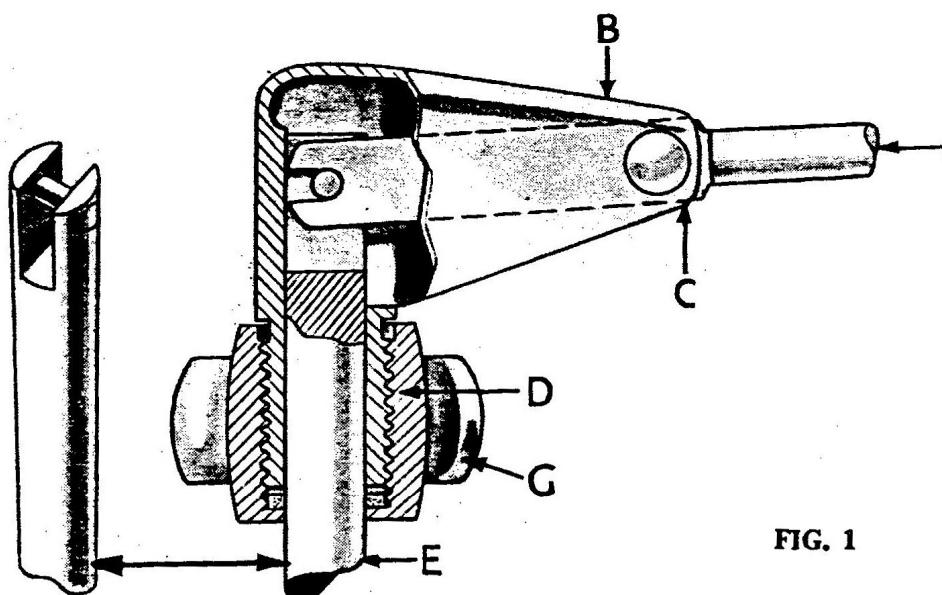
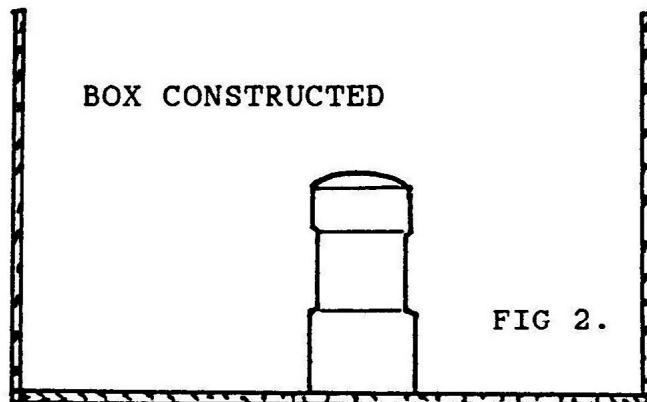

FIG. 1
FIG 2.
We illustrate the two slightly different types of gear levers; Fig. 1 is the earlier type and Fig. 2 shows the slight modifications which were introduced in later models. Their construction can be clearly seen and with the aid of the following description we hope those who wish to change their control will be able to carry out the work without undue difficulty.
The only difference between the two types is that in type 1 (Fig. 1) the end of the lever is forked and fits into the forked end of the gear control shaft, the fork on the lever fitting over a small pin. In type 2 (Fig. 2) the end of the gear lever is rounded and this fits into a hole, H, in the gear control shaft, the top of which has two flats to locate the lever cap and inner sleeve assembly, otherwise the movement and operations are
rechroming, it is quite easy to measure and saw through the lever between point C and the fork, as seen in Fig. 1.
With the steering wheel removed and securing clamp G slackened (Figs. 1 and 2), the whole unit can be lifted, B turned to desired position and all parts then replaced. If difficulty is found in threading the electrical wires through the stator tube a wire may first be threaded through, the wires attached to this and pulled through like a cleaner in a rifle barrel.
- 2: Make sides to form a box, allow at least one inch deeper than the knob. (fig 2)